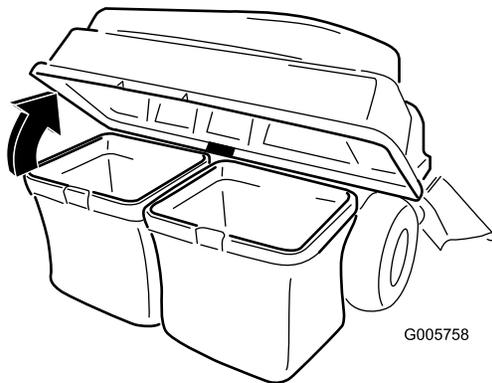

Figure 28
3. Open (raise) the bagger top (Figure 28).